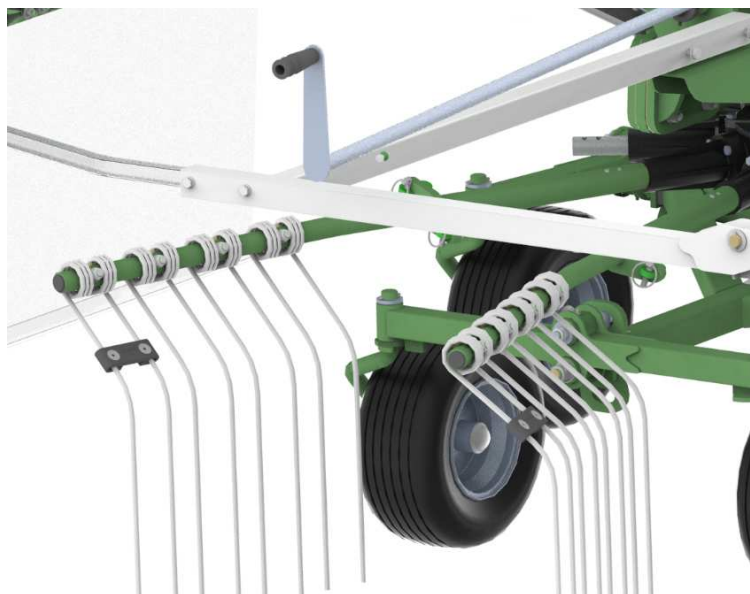
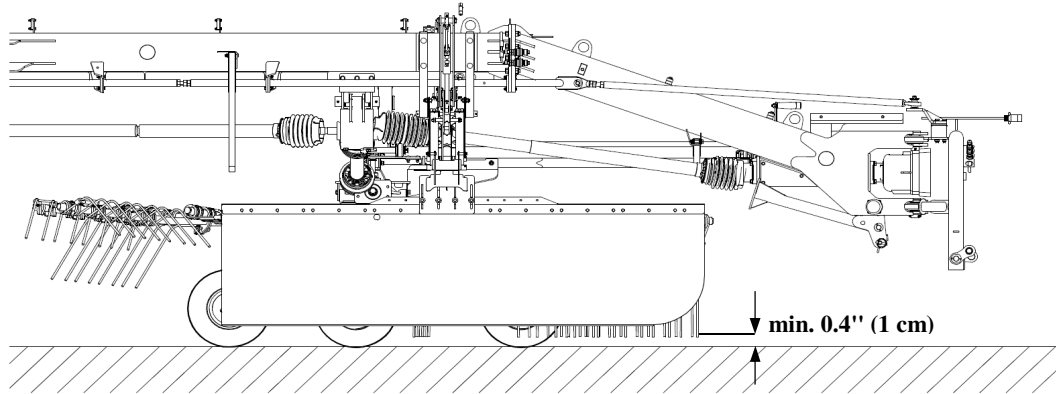

Fig. 18. Raking height adjustment lever
Fig. 21. Rake in working position
- ❑ lift or lower adjustment lever (**Fig. 18**) to set the required raking height. Recommended distance of raking tines and the ground is 0.4" (1 cm) (**Fig. 21**).